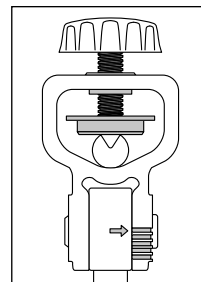

Fig 1
1. Mount the tool in the tool holder with the required length of blade protruding to allow enough clearance between the jig and stone when in use. The protrusion varies depending on the tool being sharpened and a good rule of thumb is at least 50 mm (2") is sufficient for many tools. See **Fig 1**.